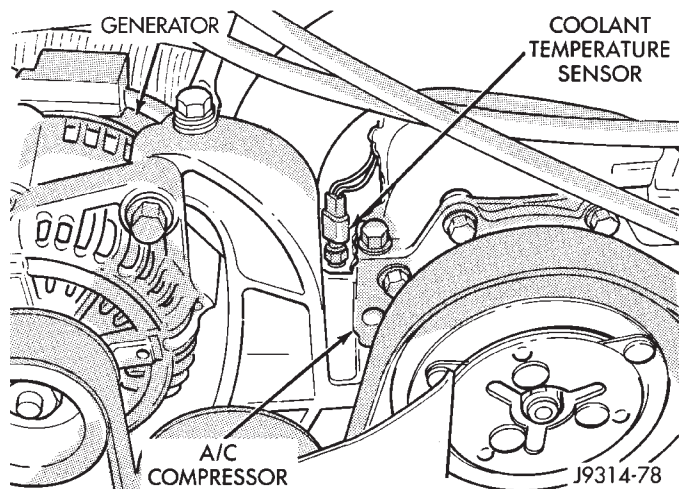

Fig. 30 Engine Coolant Temperature Sensor—5.2L/5.9L Engines—Typical
(19) Verify that wire harness connector is firmly connected to the engine coolant temperature sensor (Fig. 30).